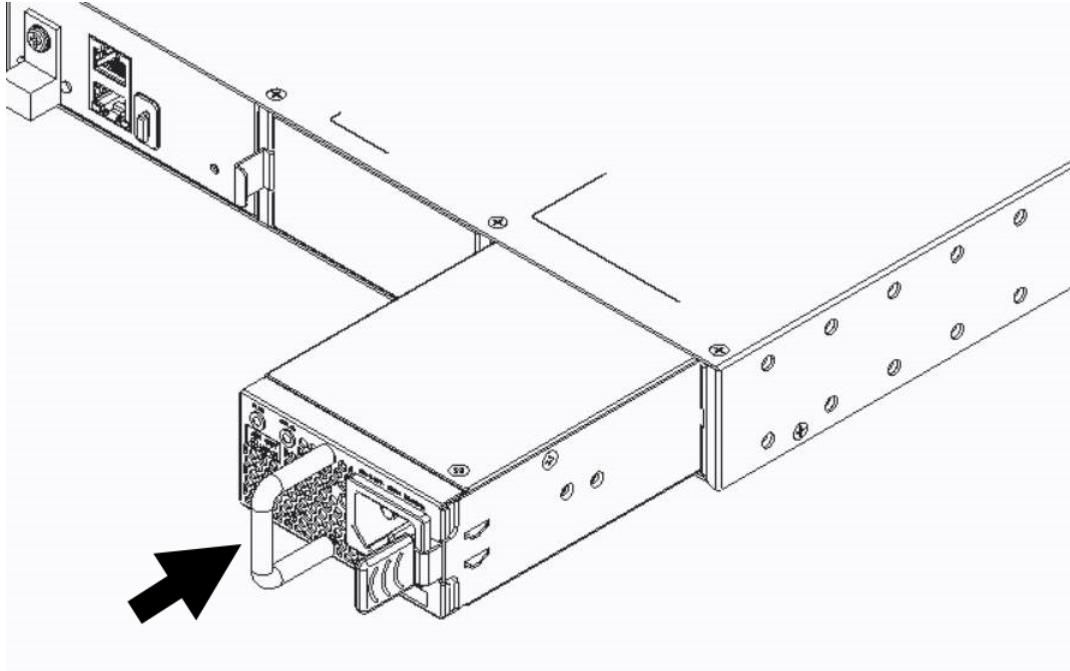

Figure 75: Installing A 350 W or 715 W AC Power Supply
6. Carefully slide the power supply all the way into the power supply bay, as shown in Figure 75.